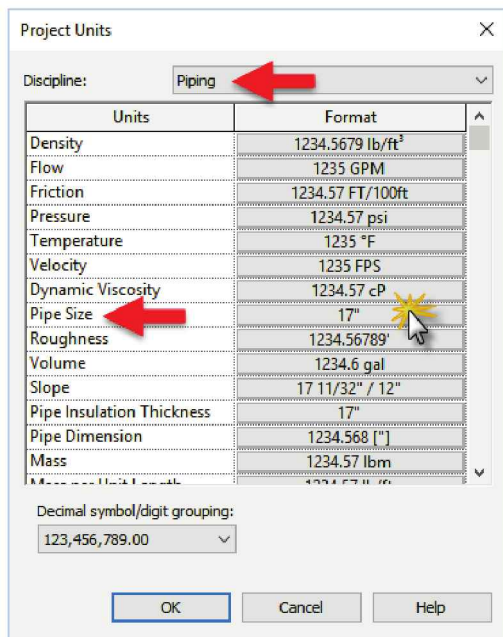

FIGURE 13-5.4 Project units; HVAC
9. Set the *Discipline* to **Piping** (Figure 13-5.4).